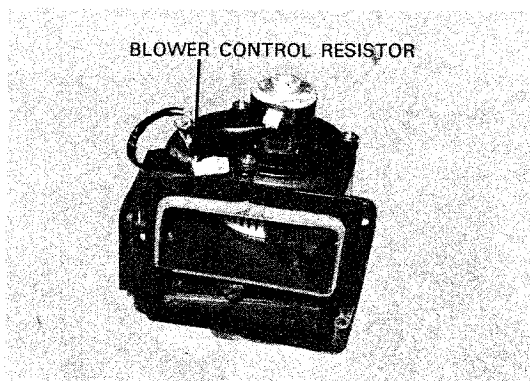

Fig. 65
- 1) Remove the heater blower. See Fig. 65.